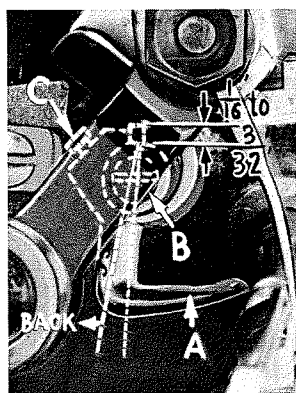

Fig. 8
Insert upper looper (A, Fig. 8) in its holder. Screw (B) holds upper looper in its holder, and permits it to be pushed in or out or turned around its shank. Insert upper looper holder into upper looper shaft, if it is not already in place. Screw (C) on clamp holds the upper looper holder in the shaft. Locate upper looper in its holder so that the shank extends $1/16$ to $3/32$ inch beyond holder.
When the upper looper is at the right end of its stroke, upper looper holder should be set to position upper looper shank back of vertical (Fig. 8).